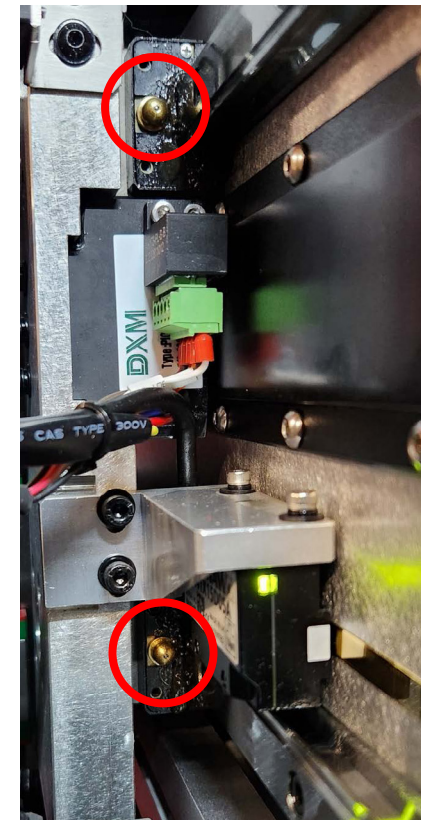

Figure 4-5 Remove Grease from Carriage Bearings
6. Using a clean, lint-free cloth, wipe carriage bearings, removing excess grease. (Figure 4-5)